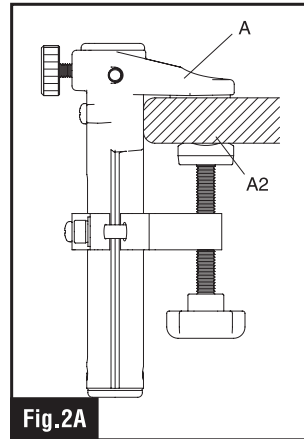

Fig.2A
- Make sure that the clamp (A) and lower pad (A2) sit flush on both the top and bottom surface of the desk as shown in Fig.2A.
2. Tighten the handle (A1) to firmly to secure it in place. Make sure the clamp (A) and lower pad (A2) sit flush on both the top and bottom surface of the desk (Fig.2A).